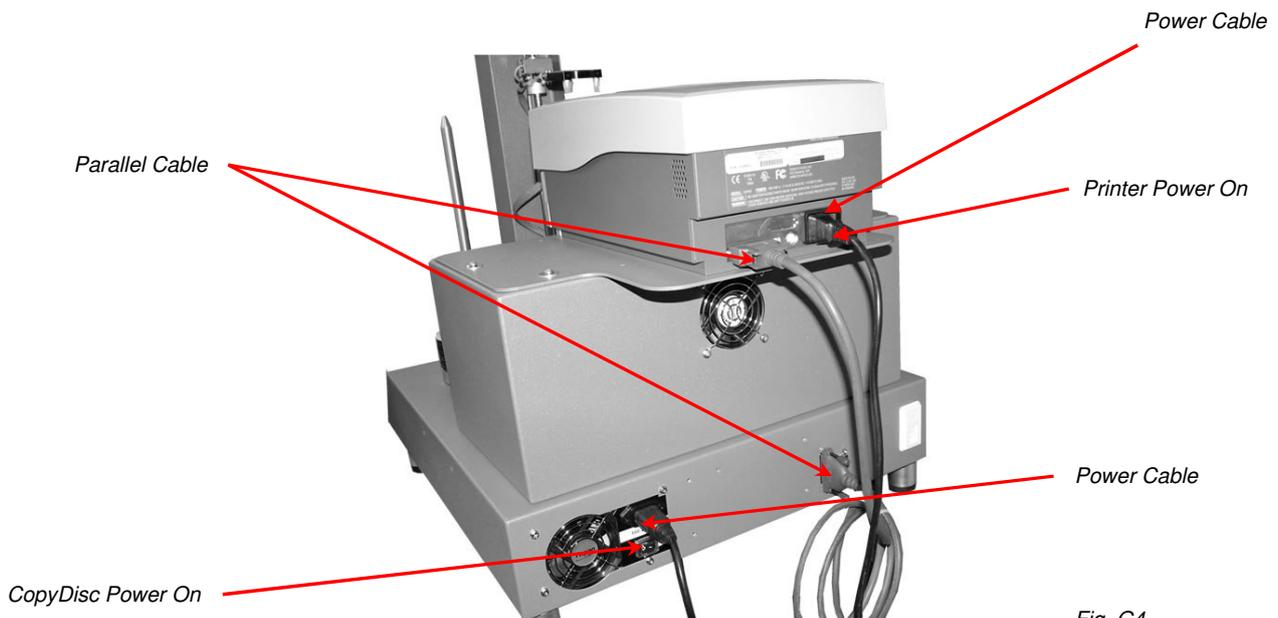

Fig. G4
1. Connect the **parallel** cable to the back of the CopyDisc and then to the back of the printer (figure G4).
3. Now connect the power cable to the back of CopyDisc duplicator and connect to the mains (figure G4).